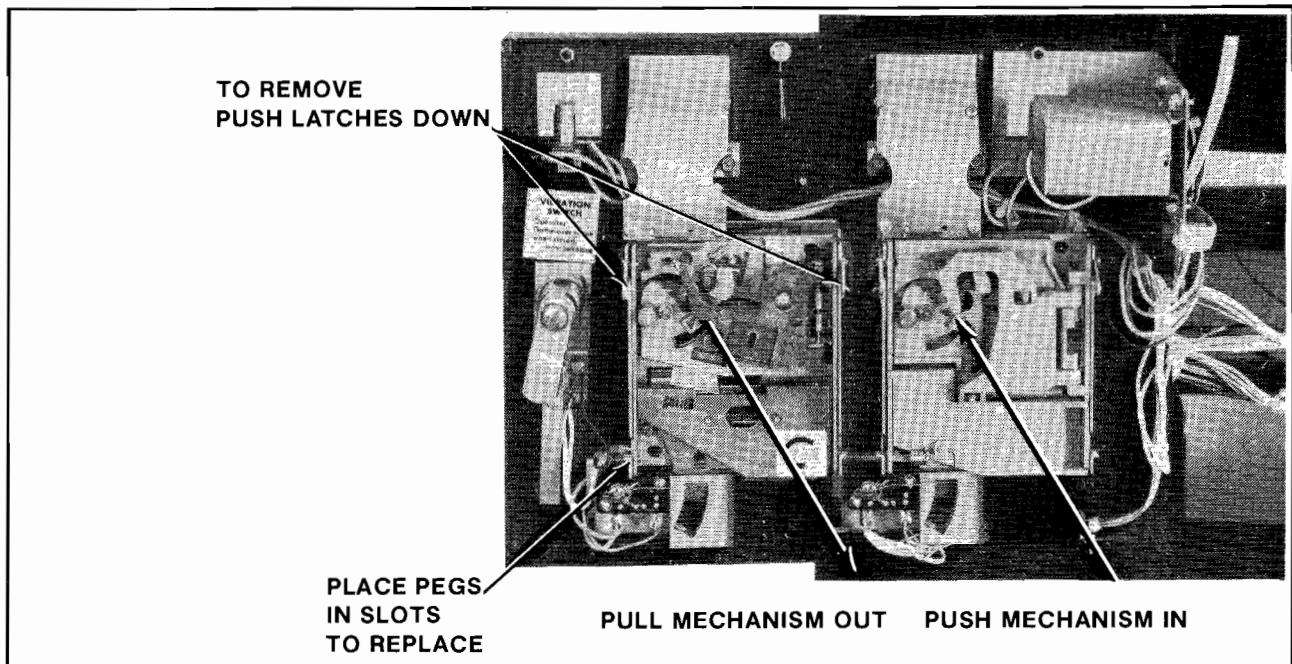

Figure 25 Removing and replacing coin acceptor
3. Remove the coin acceptor mechanism as shown in Figure 25.
- Reinstall the coin acceptor to the coin door. See Figure 25.
- Remove the coin acceptor mechanism(s) as shown in Figure 25.
6. Reinstall the coin acceptor to the coin door. See Figure 25.